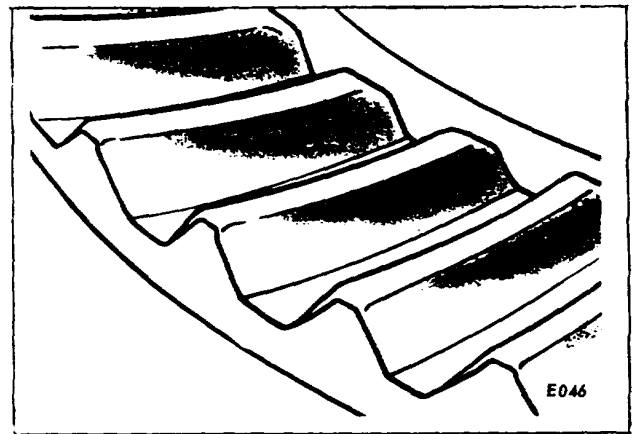

Figure 23.
6. Figure 23 shows heavy contact on face or upper portion of tooth. To correct, move pinion toward gear until contact covers flank of tooth without breaking contact at face. Then move gear away from pinion to secure correct backlash.